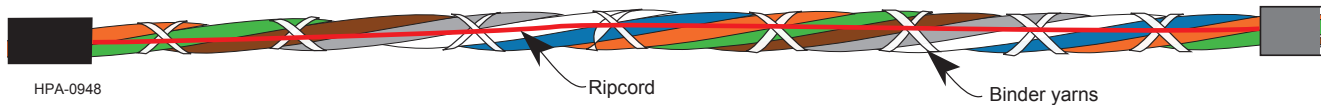

Figure 15
**Step 5:** With your fingers, remove the 6 in (15.25 cm) section of outer jacket to access the ripcords and yarns (Figure 15).